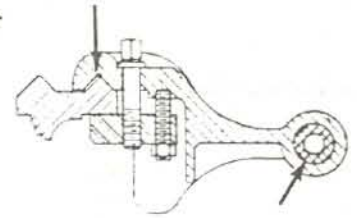

Fig. 21
- b. Scrape the "V" in the Bracket for even clamping. Adjust screws in Bracket until cored hole is centered around Tie Rod. See Fig. 21.